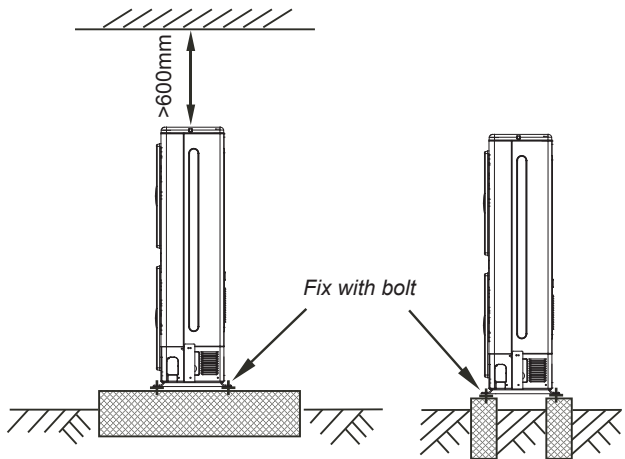

Fig. 6-8
- 3) Make concrete foundation according to the specifications of the outdoor units. (refer to Fig.6-8)
- 4) Fasten the feet of this unit with bolts firmly to prevent it from collapsing in case of earthquake or strong wind. Refer to Fig.6-8